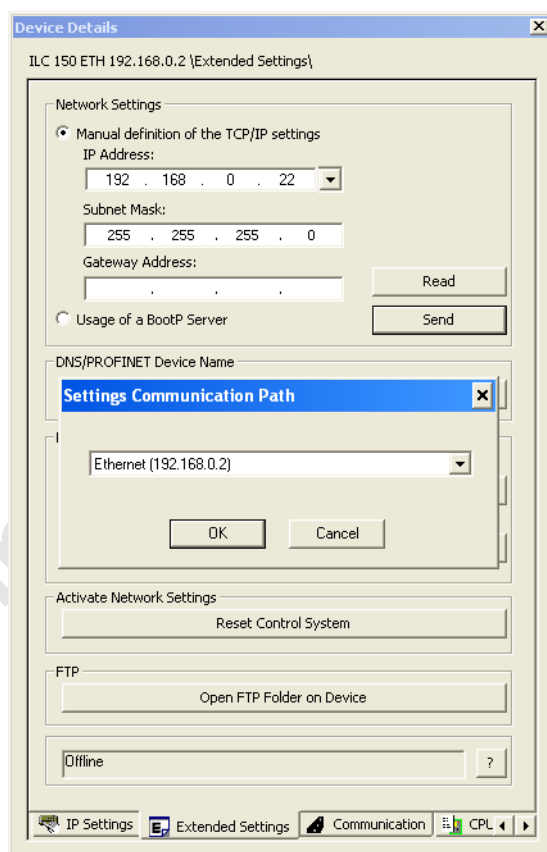

Figure 5-8 Extended Settings - Sending the IP address (192.168.0.22)
In the status window (Offline in Figure 5-8) PC WorX displays the following messages one after the other provided that the IP address was transmitted successfully:
- In the "Activate Network Settings" area click on "Reset Control System" (see Figure 5-8).
In the status window (Offline in Figure 5-8) PC WorX displays the above messages one after the other again provided that the controller was reset successfully.
In the status window (Offline in Figure 5-8) PC WorX displays the above messages one after the other again provided that BootP has been activated successfully on the ILC 150 ETH.